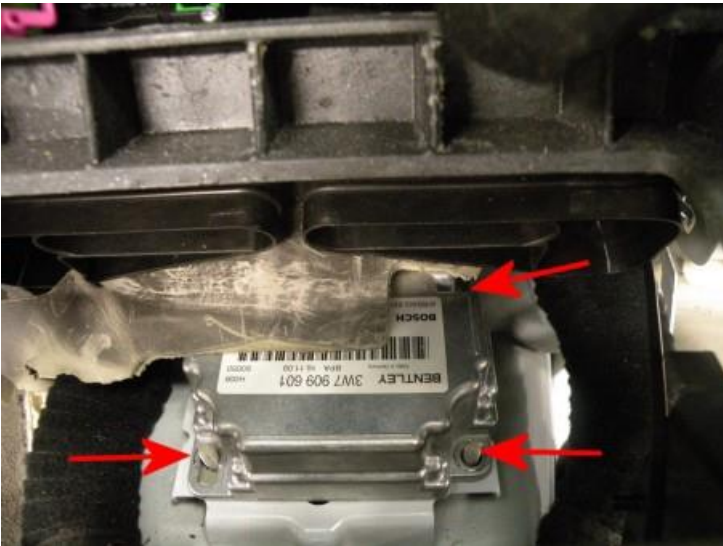

Figure 9
18. Ensure both batteries have been disconnected for a least on minute and are still disconnected before removing three fasteners securing the air bag control module (see Figure 9)